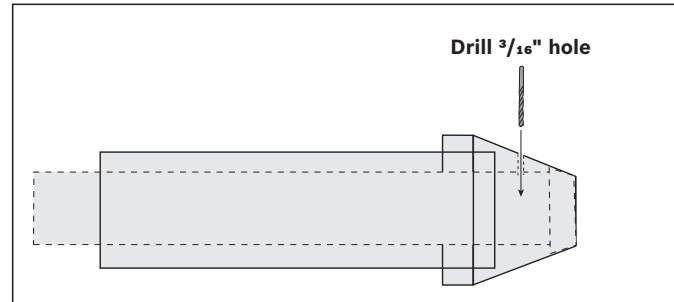

Fig. 5 Drilling rain cap
2. At this location, drill through the cap and the inner pipe wall. Ensure that the path of the hole is perpendicular to the inner pipe NOT the outside of the cap. Use a 3/16" drill bit to make the hole. (See Fig. 5).